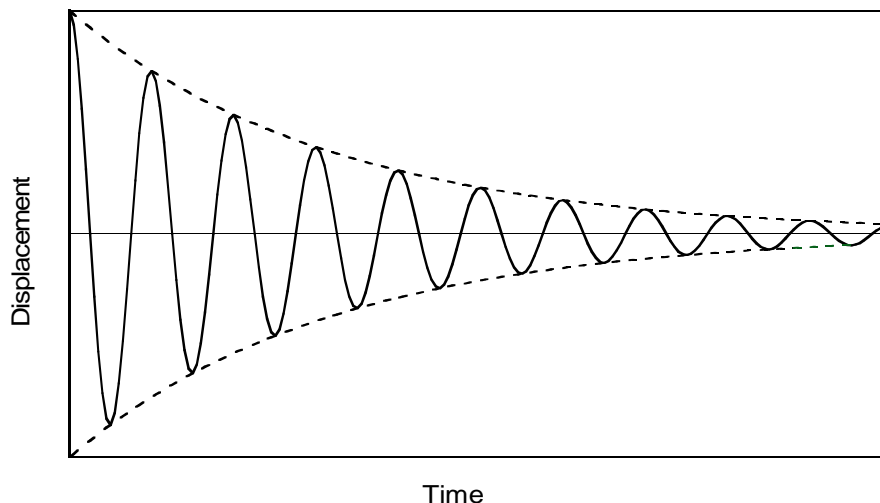

Figure 1. [The dashed lines are plots of the exponential factor.]
An example of Equation (14), with $\delta_D = \pi/2$, is shown in Figure 1: